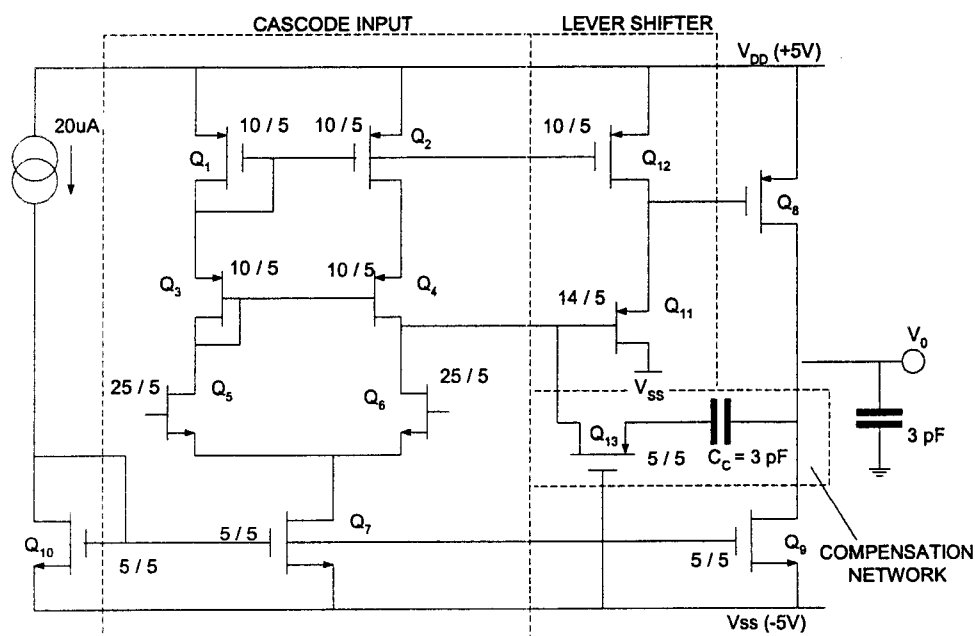

Figure 1
1. (a) Figure 1 shows a partially-designed two-stage CMOS op-amp required to give a voltage gain of approximately  $83 \text{ dB}$ . Given that the technology is a fixed  $5\mu\text{m}$  length double metal CMOS process, design the channel width of output driver transistor Q8 to achieve the required voltage gain specification. Aspect ratios of all other devices are shown on the circuit. Assume all bulk effects are negligible and that the voltage gain of level shifting buffer Q11 is approximately unity. Device model parameters are given below. [12]
- (b) Estimate the gain bandwidth product and slew rate for your op-amp design. Where would you connect two additional NMOS devices in Figure 1 to significantly increase the voltage gain of the op-amp? [4]